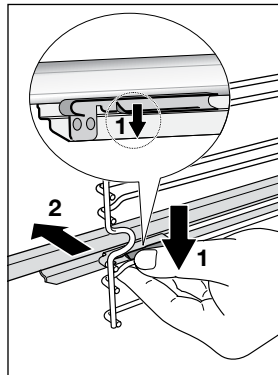

Fig.33 Removing the sliding shelf supports
- 3 Find the safety locks. These are the tabs that clip over the wire of the side rack (arrow 1 in Fig. 33).
- 4 Pull the safety locks away from the wire to release the wire (arrow 2 in Fig. 33).